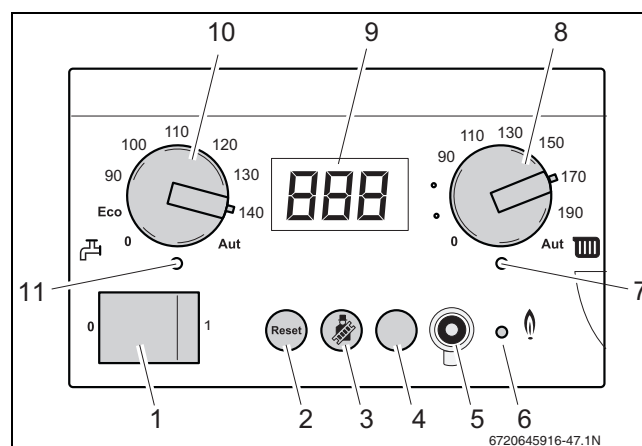

Fig. 71 BC10 basic controller
- ▶ Press and hold the  button (→ fig. 71, [3]) (approx. 2 seconds), until the dot in the right-hand bottom corner of the display (→ fig. 71, [9]) appears (→ table 12, page 29).
- ▶ After the “LED Burner operation” (→ fig. 71, [6]) has lit up wait for 1 minute until the boiler is burning at full load.
- ▶ Press the “Chimney sweep”  button (→ fig. 71, [3]) to clear the reading (→ table 12, page 29).
- ▶ Switch OFF the heating system by pressing the main switch of the BC10 basic controller (→ fig. 71, [1]).
- ▶ Remove the flue gas analyzer and fit the cover back onto the flue gas measuring point (→ fig. 71, [1]).
- ▶ Switch ON the heating system by pressing the main switch of the BC10 basic controller (→ fig. 71, [1]).
- ▶ Switch OFF the appliance by pressing the main switch of the BC10 basic controller (→ fig. 71, [1]).
- ▶ Switch ON the appliance by pressing the main switch of the BC10 basic controller (→ fig. 71, [1]).
- ▶ After the LED Burner “operation” (→ fig. 71, [6]) has lit wait for 1 minute until the boiler is burning at part load.
- ▶ Press and hold the “Chimney sweep” button (→ fig. 71, [3]) (approx. 2 seconds), until the dot in the right-hand bottom corner of the display (→ fig. 71, [9]) appears (→ table 12, page 29).